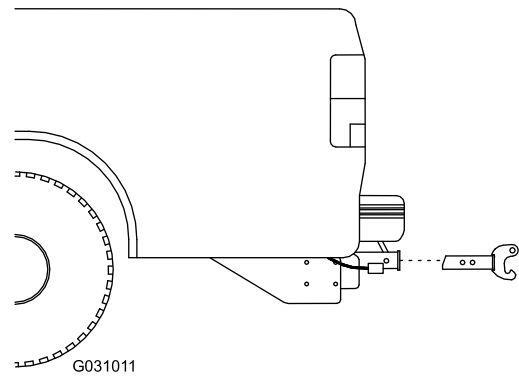

Figure 9
2. Slide the RT3 hitch into the receiver hitch of your vehicle and line up the second hole on the spreader hitch with the hole in the hitch of your vehicle (Figure 9).